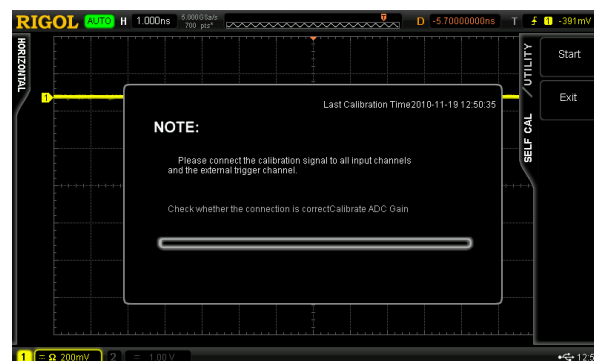

Figure 7
2. Press **UTIL** at the front panel and select **Self-Cal** in the first-page menu as shown in figure 7.